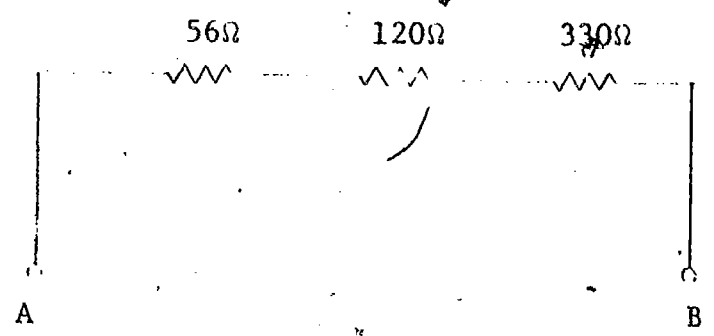

Figure 2 - Three Resistors Connected in Series
2. Connect the three resistors in series, as shown in Figure 2, and with an ohmmeter and G. R. Bridge measure the resistance between points A and B.
3. To the circuit of Figure 2, apply 10 volts between points A and B and measure the current which flows. Also measure V_1 , V_2 and V_3 . Does $E = V_1 + V_2 + V_3$?